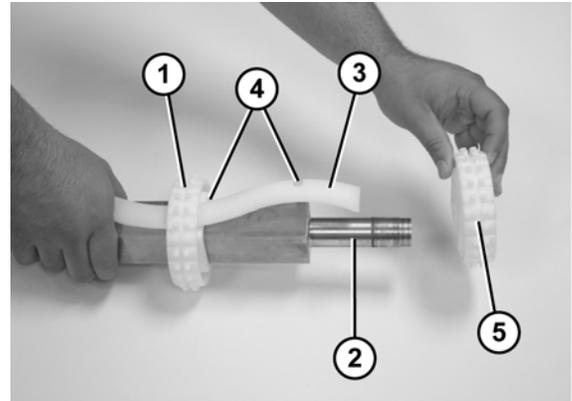

Figure 67
- Slide the first sprocket (Figure 67, item 1) onto the drive spindle (Figure 67, item 2).
- Insert the sprocket alignment bar (Figure 67, item 3) into the first sprocket and align the sprocket with the notch (Figure 67, item 4) in the sprocket alignment bar.
- Slide the remaining sprockets (Figure 67, item 5) onto drive spindle and align each sprocket with the notches (Figure 67, item 4) in the sprocket alignment bar.